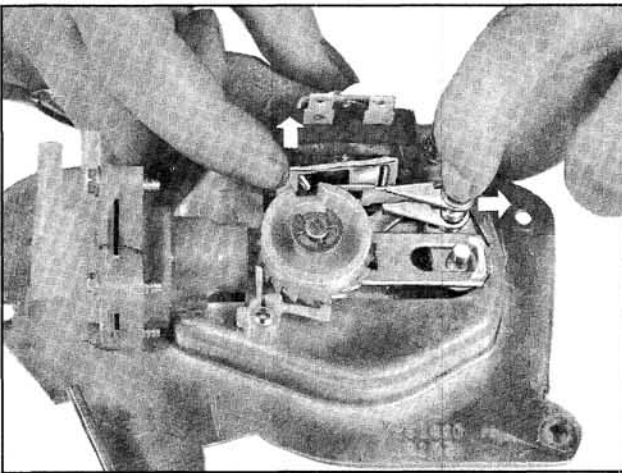

Fig. 13-209 Disengaging Pawl
4. Move cam lever to the rear and lift up on armature as shown in Fig. 13-209.